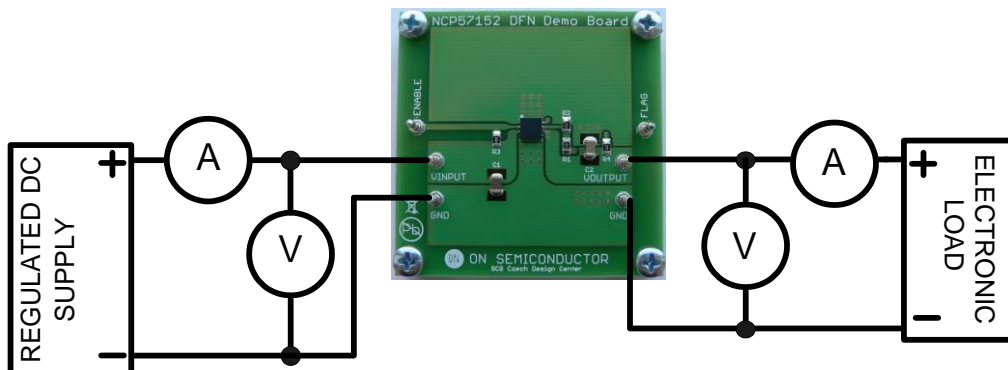

Figure 1: Output Voltage Test Setup
- 1.1 Connect the test setup as shown in Figure 1.